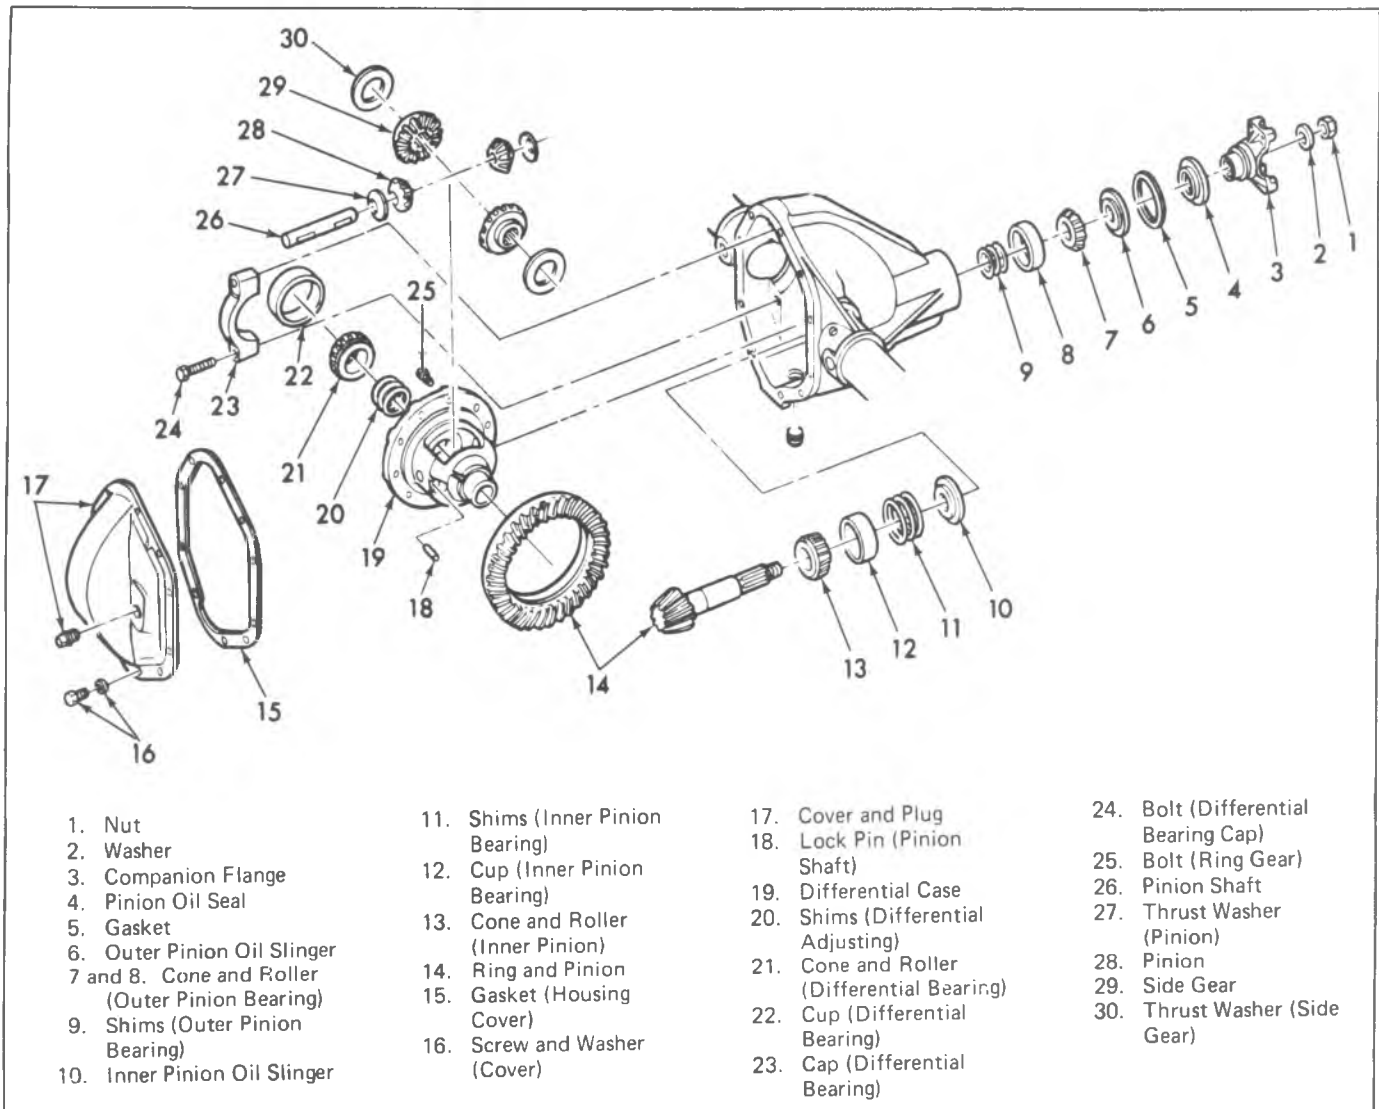

Fig. 14F--Dana Differential With 9-3/4" Ring Gear - Exploded View
1. The differential side bearing shims are located between the side bearing cone and roller assembly and the differential case. See figure 14F. These bearings are of the tapered roller design and are preloaded. In order to remove the differential case the carrier must be spread.